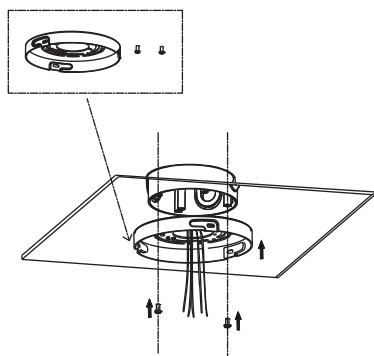

fig. 4
4. Attached the ceiling mounting plate to the ceiling J-box (not provided) with provided screws. (Figure 4)